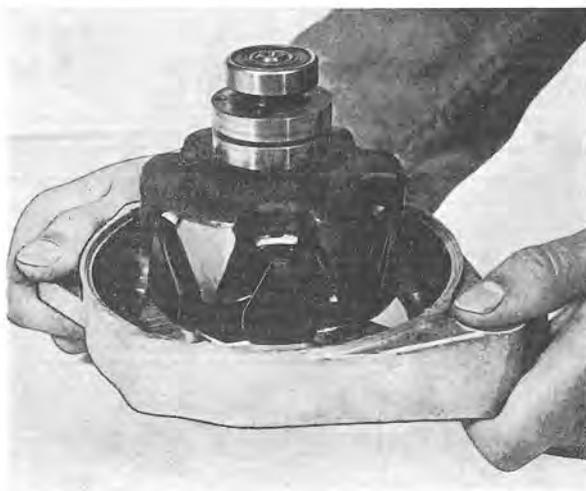

Fig. 3-8. Removing the drive end shield
6. Release the three screws holding the support plate of the drive end bearing. Release the bearing by knocking the end of the shaft against a piece of wood, see Fig. 3-8.